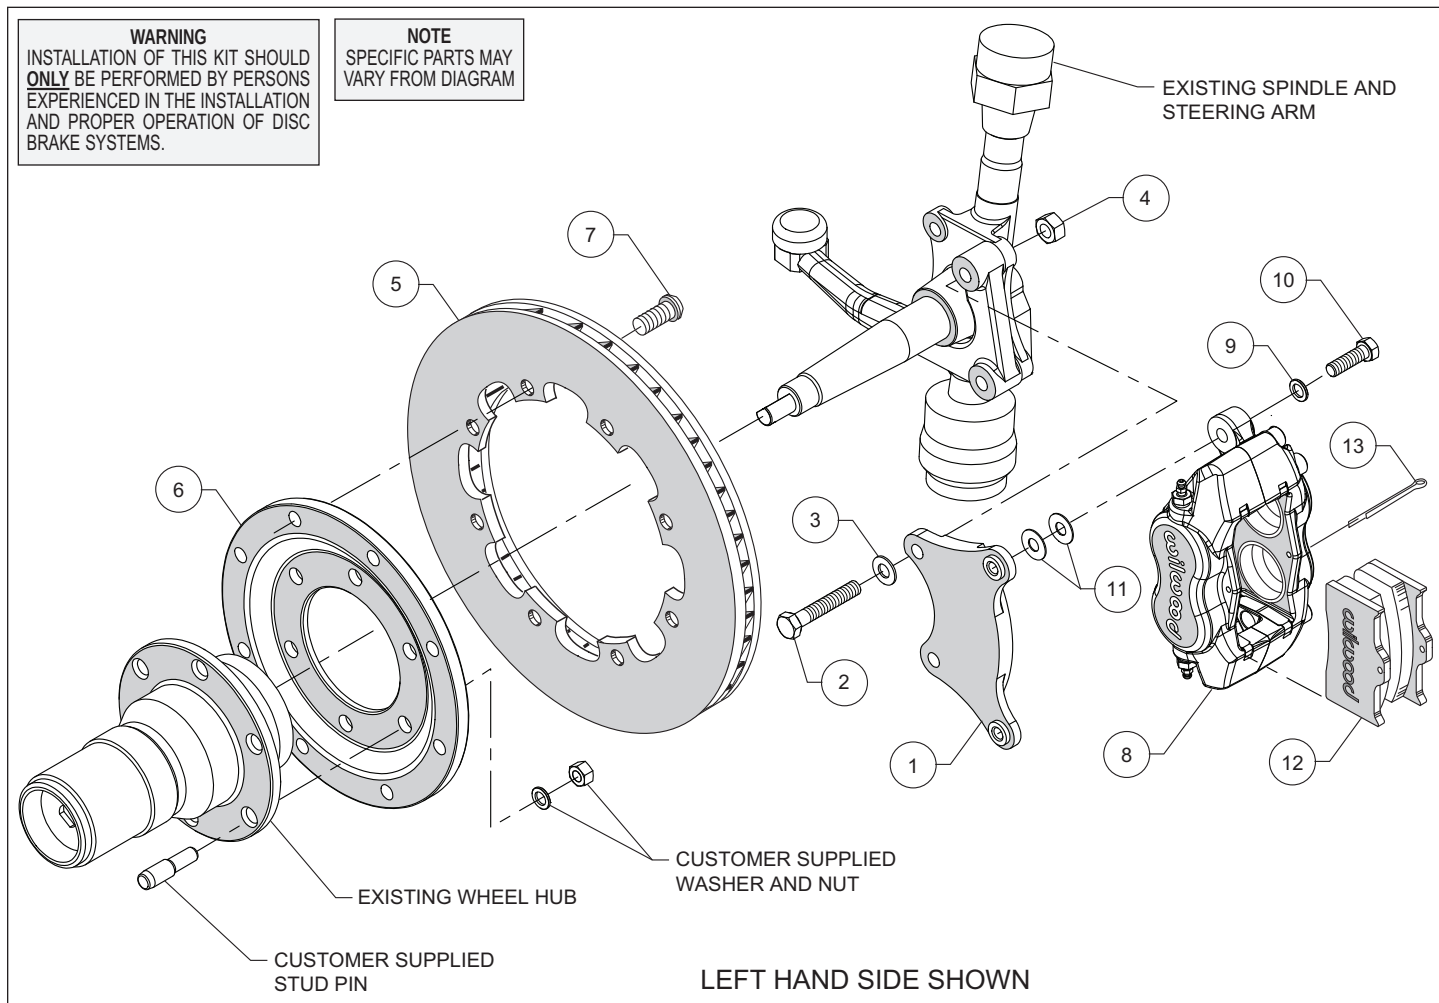
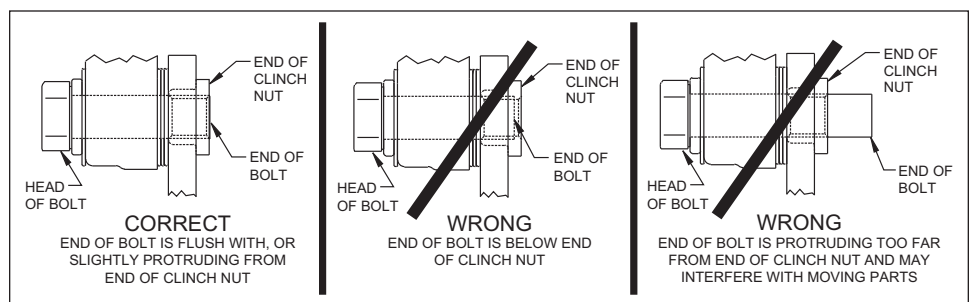

Figure 1. Typical Installation Configuration
Figure 4. Clinch Nut Engagement Diagram
Assembly Instructions (numbers in parenthesis refer to the parts list and Figure 1 on the preceding pages): **CAUTION:** All mounting bolts must fully engage clinch nuts. Be sure to check that all bolts are either flush or protruding through flanged side of clinch nut after shimming, Figure 4.
- Orient the caliper mount bracket (1) as shown in Figure 1 and install using bolts (2), washers (3) and nuts (4). Ensure that the flanged heads of the clinch nuts in the bracket are facing outboard, Figure 1. Temporarily tighten the mounting bolts.
- Orient the rotor (5) and the rotor adapter (6) as shown in Figure 1 and Photo 1. Attach the rotor to the adapter using bolts (7). Using an alternating sequence, apply red *Loctite*® 271 to the threads, and torque to 25 ft-lb.
- Mount the adapter/rotor assembly (5/6) to the hub (customer supplied) using stud pin, washer and nut (all customer supplied), as shown in Figure 1. Using an alternating sequence, apply red *Loctite*® 271 to the threads, and torque nuts to manufacturer's specifications.
NOTE: Please reference the caution statement at the beginning of the assembly instructions. Mount the caliper (8) onto the caliper mounting bracket (1) using bolts (10) and washers (9), as shown in Figure 1. Initially place two .035" thick shims (11) on each bolt between the caliper and the bracket, Photo 2. Temporarily tighten the mounting bolts and view the rotor (5) through the top opening of the caliper. The rotor should be centered in the caliper, Photo 3. If not, adjust by adding or subtracting shims between the bracket and the caliper. Always use the same amount of shims on each of the two mounting bolts. **NOTE:** The end of each bolt must be flush with or slightly protruding from the head of the clinch nut, as shown in Figure 4. If necessary place spare shims between washer (9) and caliper mounting ear to achieve the proper clinch nut engagement. Once the caliper alignment and clinch nut engagement are correct, remove the bolts one at a time, apply red *Loctite*® 271 to bolt threads, and torque to 40 ft-lb.
- Install the disc brake pads (12) into the caliper, with the friction material facing the rotor (5), and secure in place using cotter pin (13), Photo 4.